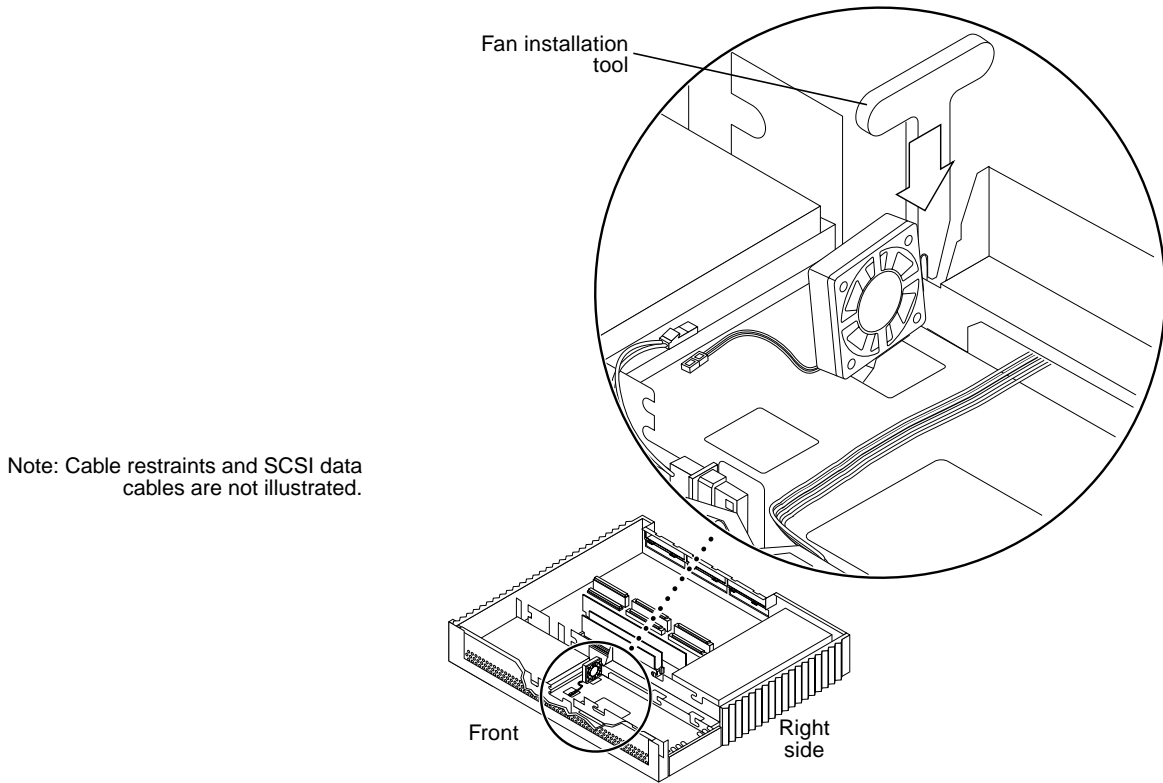

FIGURE 8-14 Securing the Fan Assembly Using the Fan Installation Tool
- 3. Place the notched tip of the fan installation tool over the side mounting clip and press down (FIGURE 8-14).**